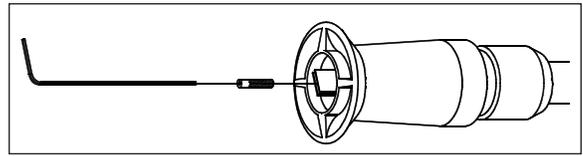

Figure 17 - Remove Nozzle
- b. Using the supplied 2mm (5/64) Allen wrench, remove the nozzle from the end of the nozzle extension (Figure 17).